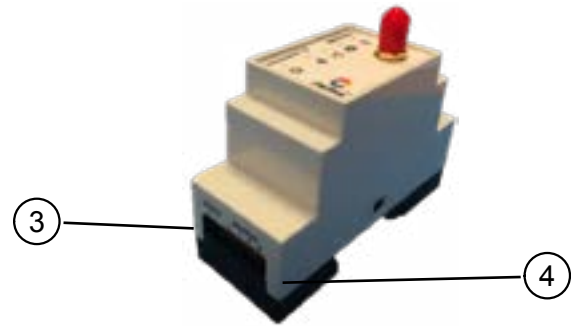

Fig. 2: Connectors
- ▶ Connect the power cable to the Gateway (pos. 3 in Fig. 2).
- ▶ Connect the cable to the Gateway (pos. 4 in Fig. 2).